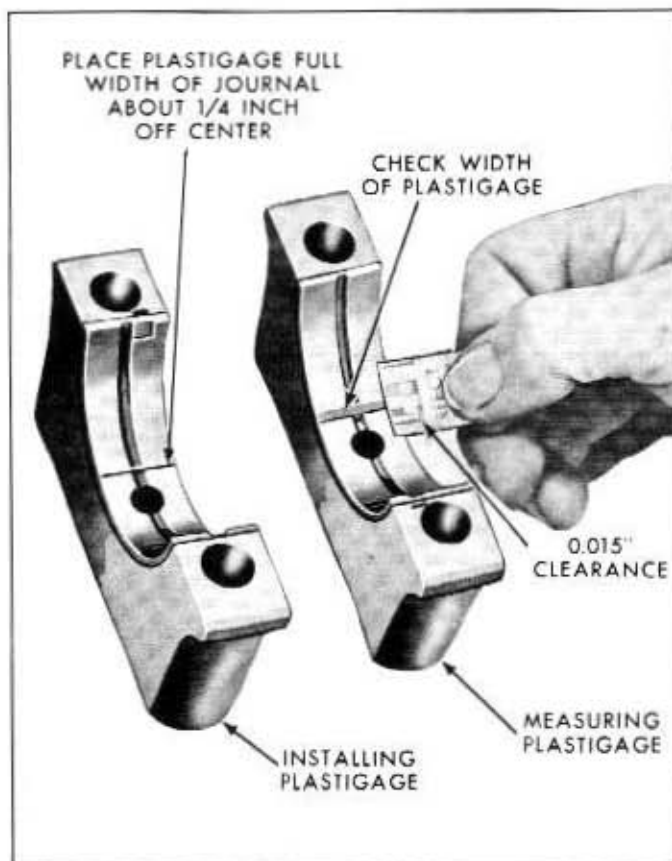

Fig. 6A-83—Installing and Measuring Plastigage—Engine Installed—(60C-5636)
11. Place a piece of Plastigage on the bearing surface the full width of the bearing cap and about $\frac{1}{4}$ inch off center. See figure 6A-83.